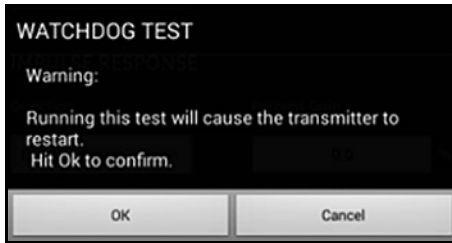

Figure 130: Watchdog Test Warning
2. A properly functioning PT900 restarts if the **Watchdog Test** is run, and a warning message similar to *Figure 130* below is displayed.